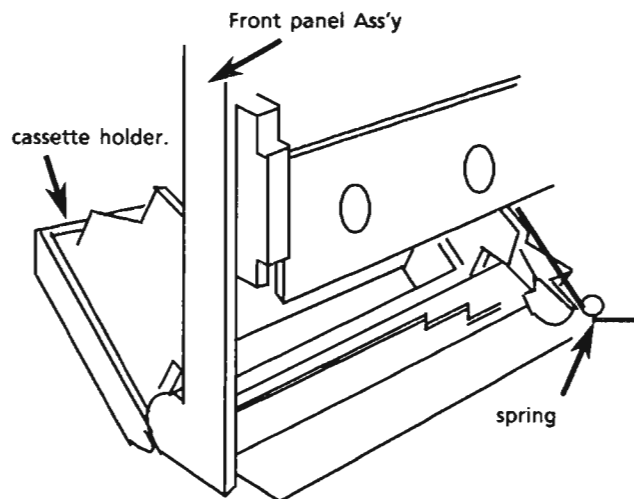

Fig 11 Front view
2. Remove the spring hooked on the cassette holder (Fig 11).